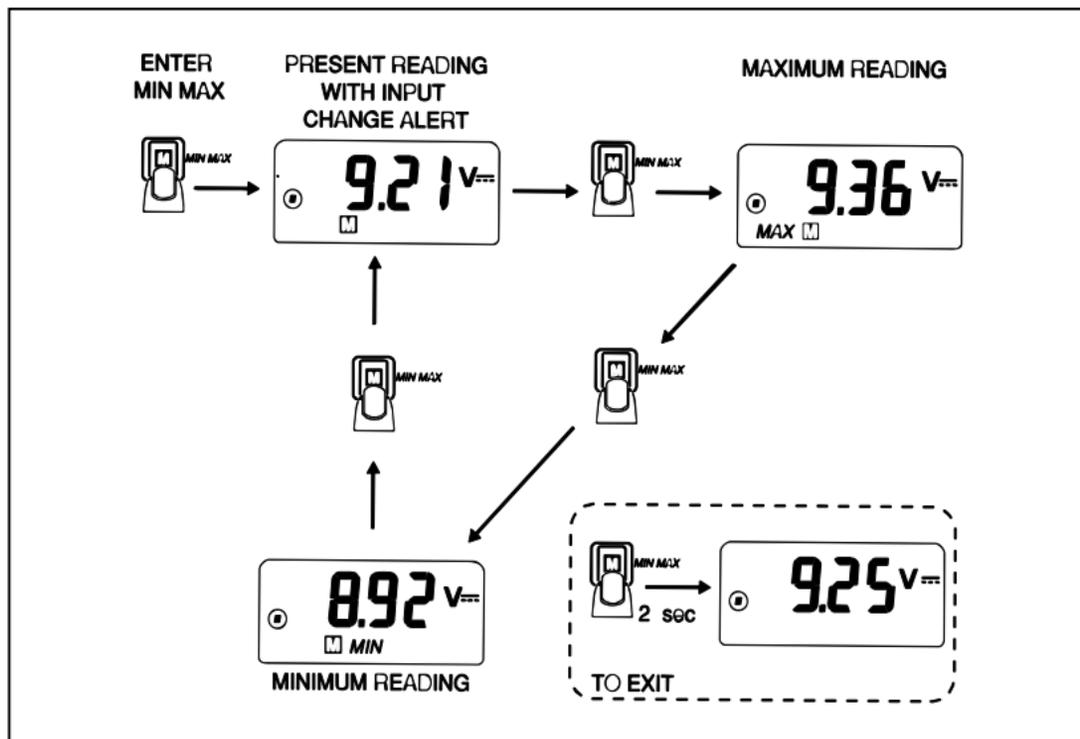

Figure 7. Displaying Minimum and Maximum Reading
4. Press [\mathbb{M}] to cycle through maximum, minimum, and present readings (see Figure 7). To exit MIN MAX and erase the stored readings, press [\mathbb{M}] for 2 seconds or change the measurement function.